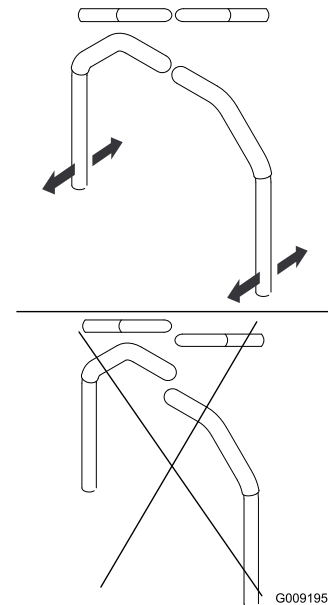

Figure 61
4. Align the levers front to rear position by bring the levers together to the neutral position and slide them until they are aligned, then tighten the bolts (Figure 61).